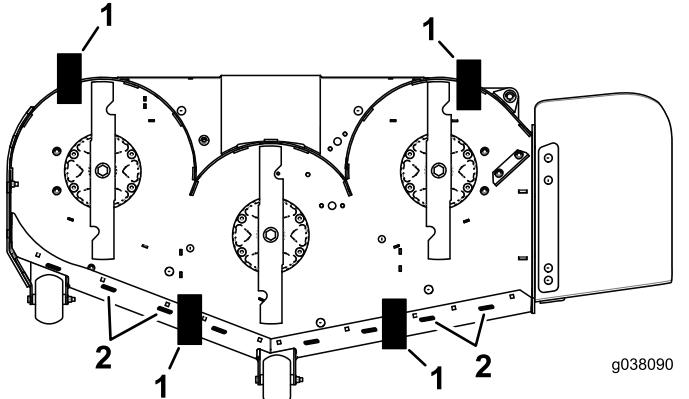

Figure 88
11. Place 2 blocks (see Block Height and Rake Table) under the rear edge of the cutting deck skirt; 1 on each side of the cutting deck (Figure 88).